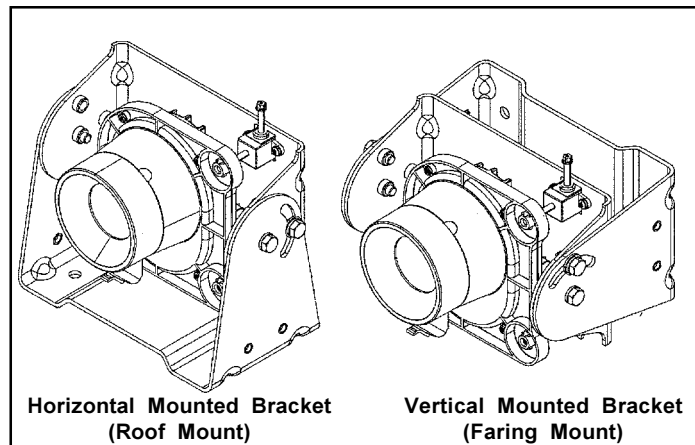

Figure 2 IR Camera Mounting Configurations
3. Depending on the cab style, choose whether the bracket should be installed to the vehicle roof or faring area. Refer to Figure 2.